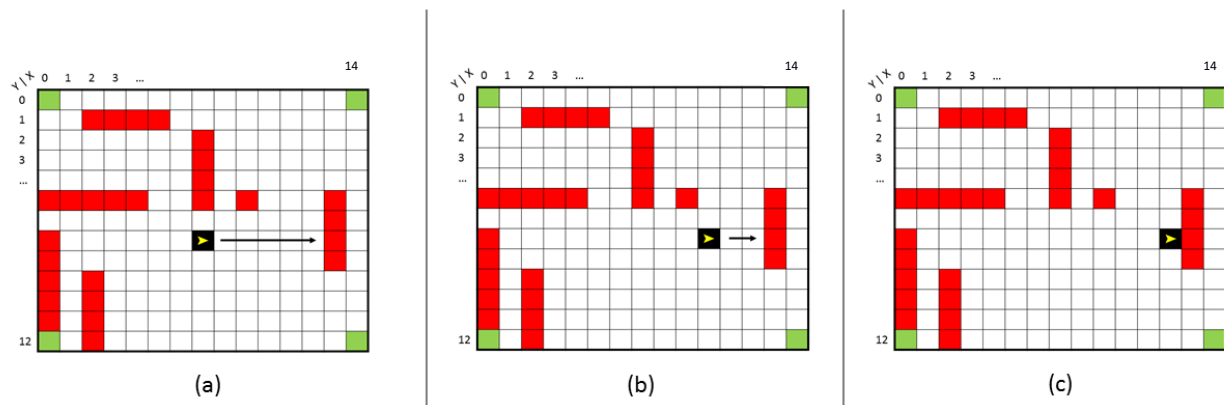

Figure 4 - Distance from obstacles and led blinking
The DIRECTION LEDs **are active one at a time depending on the robot current direction**. Whenever (**i.e., at any time instant**) the proximity sensor detects an obstacle **in front of the robot**, the DIRECTION LED currently active blinks with the following specifications according to the distance from the obstacle (Figure 4):
- Between 5 (included) and 3 (included) slots: 2Hz blinking (Figure 4.a);
- 2 slots: 4Hz blinking (Figure 4.b);
- 0 slots (robot right in front of the obstacle): 8Hz (Figure 4.c). **NOTE: Also the RUNNING LED must blink at 5Hz.**
When the robot is in the position of Figure 4.c, the player must not be allowed to proceed in that direction. That is, any pressure of the RUN button does not change the robot position. The player must first release the RUN button. Then, press the ROTATE button (the rotation must be applied when the button is actually released). Once released, press again RUN button to continue the movement.